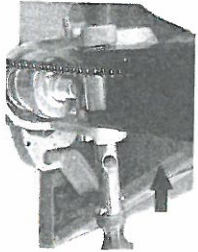

Fig. 2
2.1 Insert the draw-bar onto the pump piston (303), then use a hammer to insert the axle with hole (105) into the hydraulic pump and draw-bar from the right to left. (See fig. 2 ).